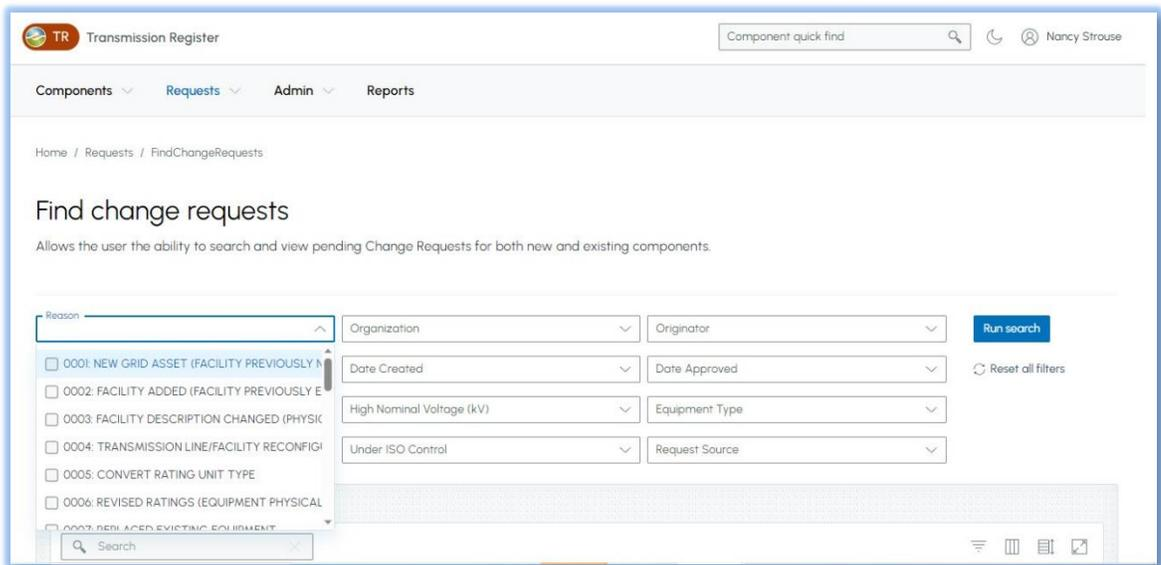

Figure 22 Find Change Request Page
- 1) Click the Find Change Requests hyperlink shown in Figure 22 and the screen in Figure 23 loads.
- 1) Click the Find Share Requests hyperlink shown in Figure 22 and the window in Figure 26 loads.